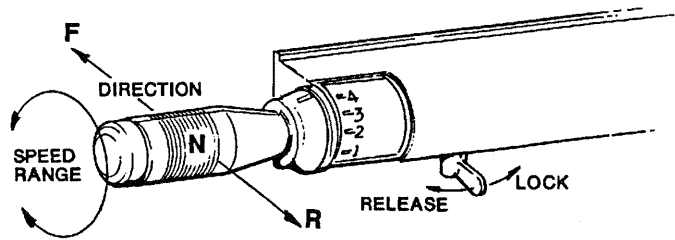

Fig. 3-12 Transmission Control Handle
33. Transmission Control Handle See Fig. 3-12